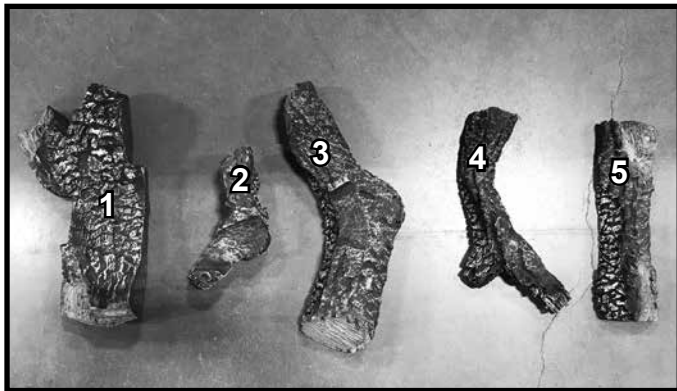

Figure 10A Log Identification (Natural Bark Logs)
**NOTICE:** To simplify the installation process, use Figure 10A and 10B to positively identify each individual log before beginning installation. The logs for both will place similarly in the appliance, the natural bark logs are featured in the figures.